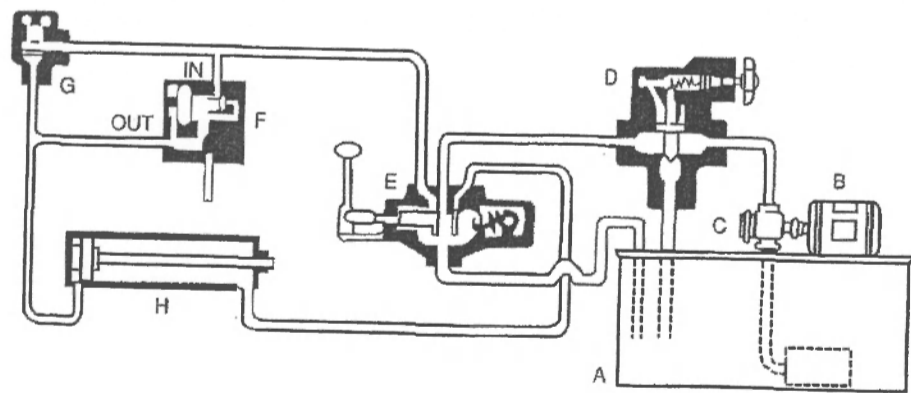

Figure Q6(b)
- (i) Name eight (8) basic components of hydraulic system based on Figure Q6(c)